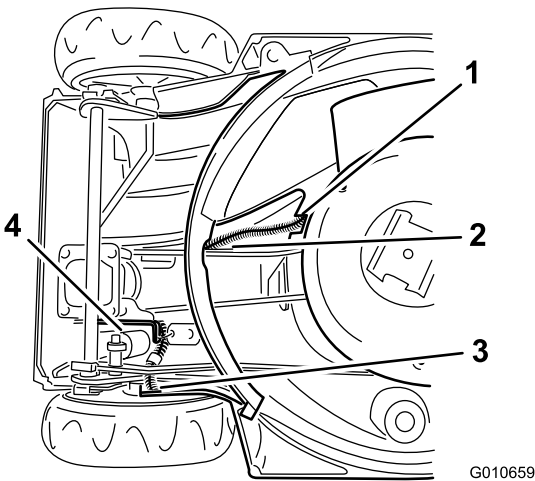
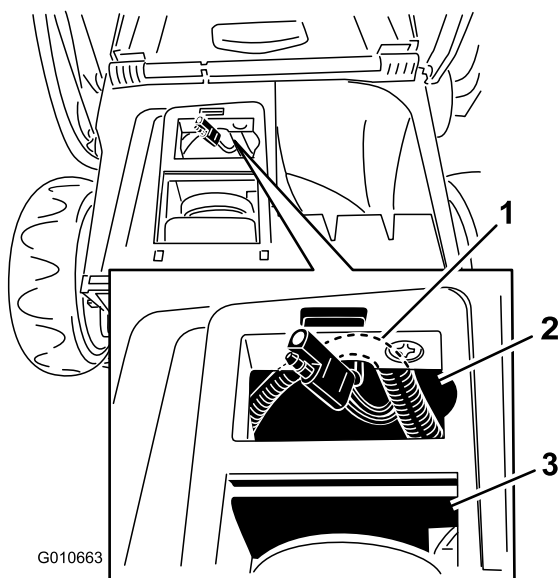
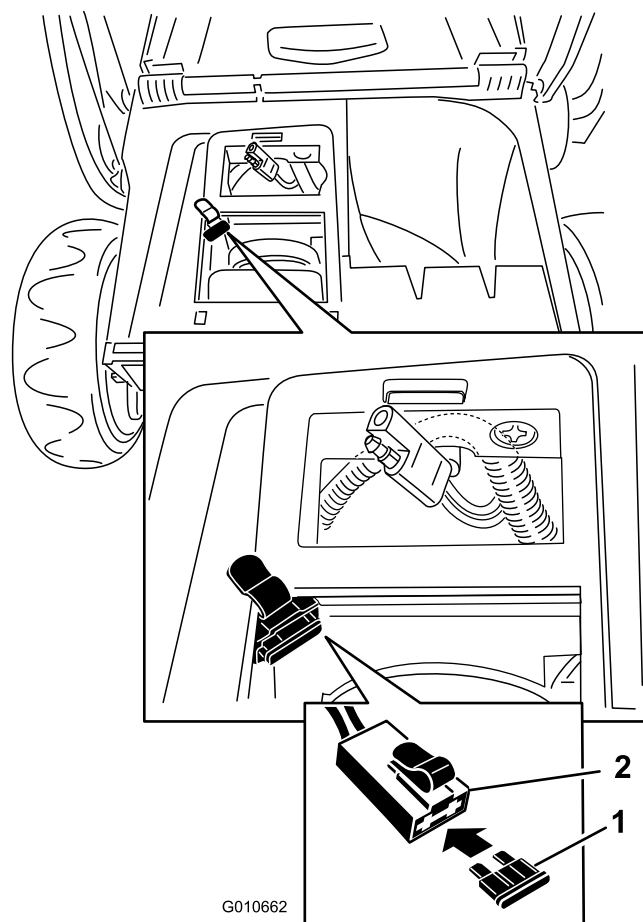

Figure 5
Figure 8
Figure 9
2. Install the new wire harness by threading the ignition connector end first through the opening in the housing as shown in Figure 5.
3. Insert the engine connector into the opening as shown in Figure 5.
6. Locate the wire harness (with the fuse holder and the battery connector) inside the battery compartment (Figure 8).
7. Insert the fuse holder first in front of the height-of-cut cylinder (Figure 5), then work it around the cylinder and down to the belt compartment (Figure 8 and Figure 9).
8. Clip the fuse holder on the new wire harness onto the upper left-hand corner of the belt compartment opening (Figure 9).
9. Tuck the wire harness between the aluminum boss and the black plastic rib (Figure 8).
20. Insert the fuse in the fuse holder (Figure 9).